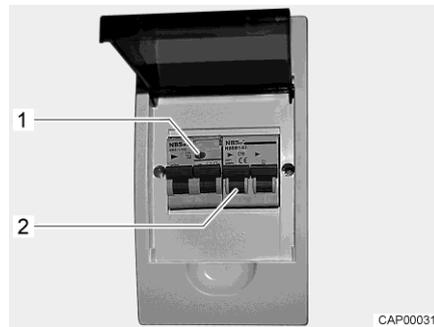

Fig. 102 230 V fuse box with safety cut-out and FI-switch
A fault current protection switch (FI-switch) in the fuse box protects the complete vehicle from fault current (0.03 A). A downstream safety cut-out (10 A) (Fig. 102,2) secures the 230 V power supply.
- When the vehicle is connected to the 230 V power supply, press the test button (Fig. 102,1). The fault current protection switch must trip.